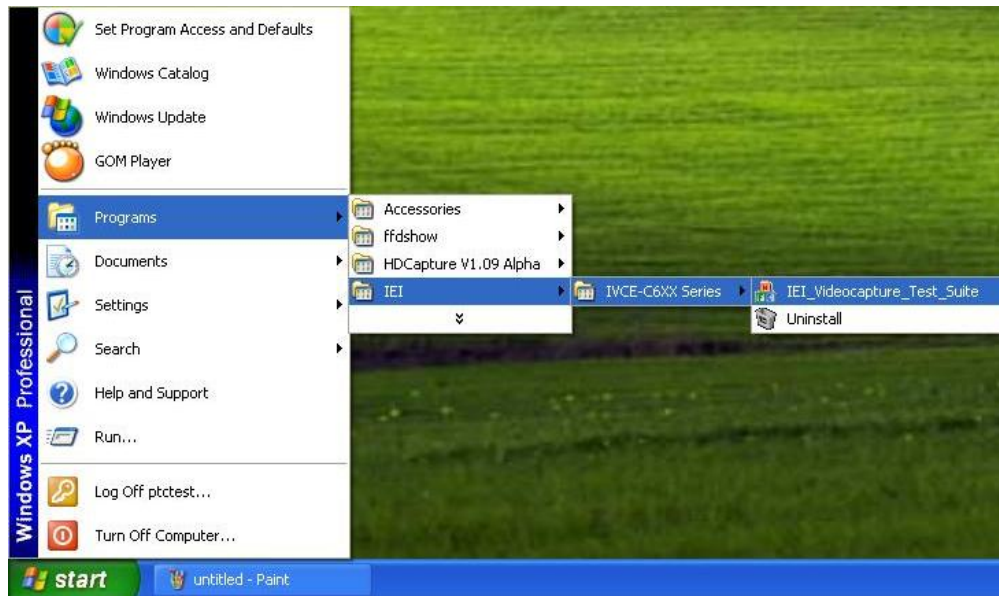

Figure 6-11: Uninstall IVEI Video Capture Test Suite (Start Menu)
Step 1: To uninstall the test suite, select **Uninstall** in the “IVCE-C6XX Series” folder from the start-up menu (**Figure 6-11**).
Step 2: To uninstall the driver, right click the video capture card and select **Uninstall** in the Device Manager window as shown in **Figure 6-11**.